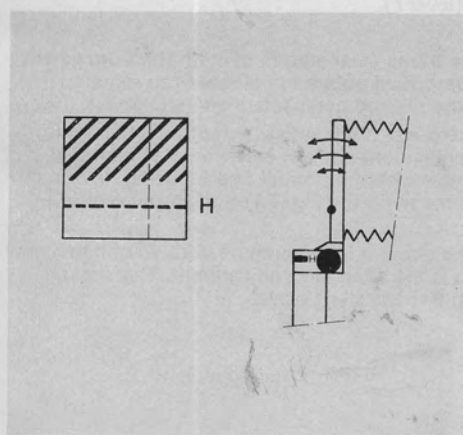

Fig. 75
2. Focus the **second** image point, which you locate **above the horizontal axis H** (Fig. 75, shaded section), by turning tilt knob k (change-over lever k' in position H) – and the tilt is perfect!